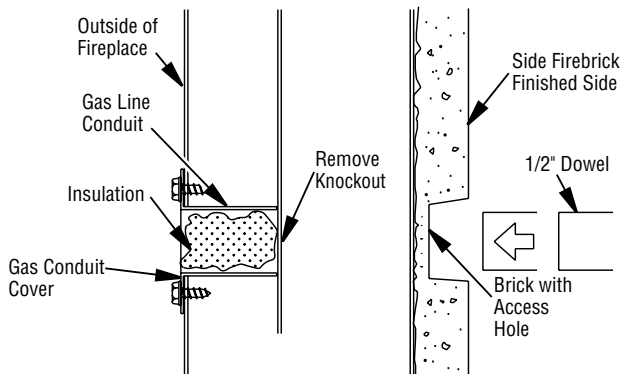

Figure 36 - Gas Line Access
1. Remove knockout indentation on refractory or firebrick wall located above refractory hearth floor. Knockout indentation must be firmly tapped with any solid object such as a 1/2" dowel until it is released. Remove fragmented portions of refractory (see Figure 36).